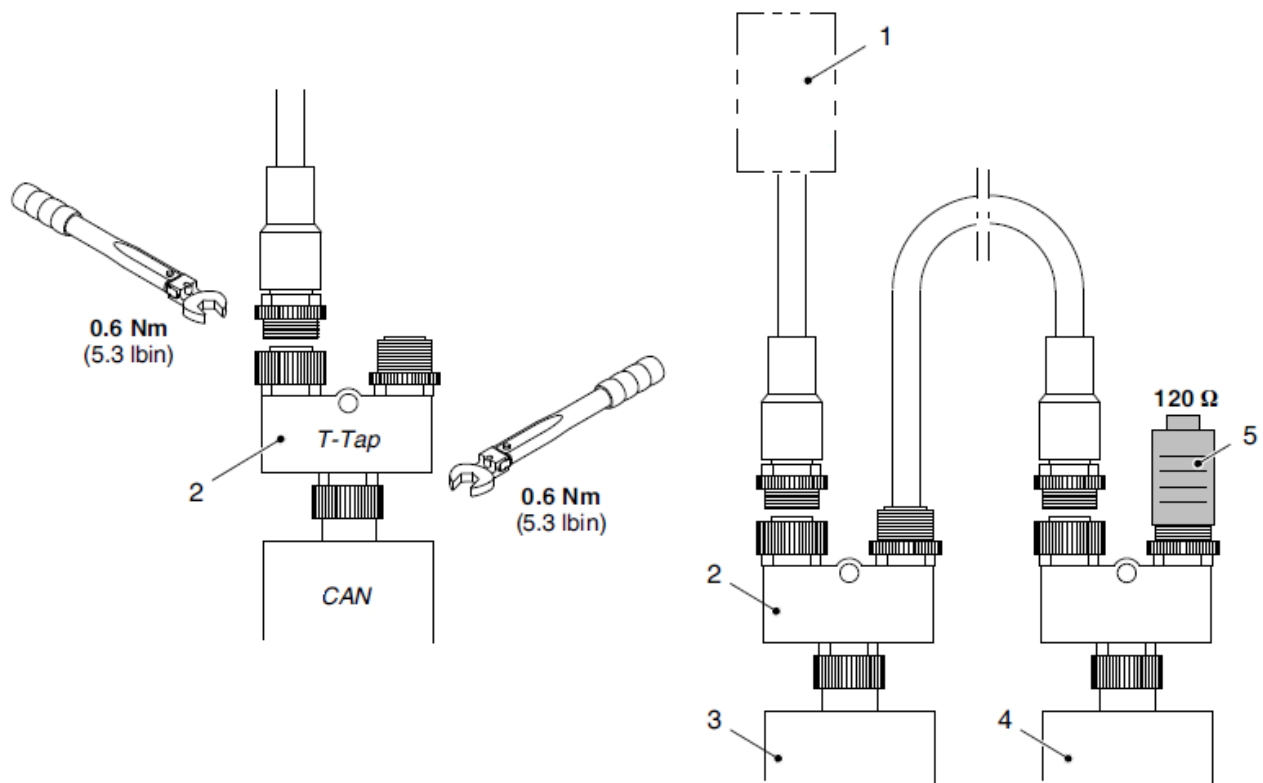

Figure 7-3 Example with two pressure sensors and information on T-tap and CAN bus cables with hexagon nut
Refer to Figure 7-3: Tighten the hexagonal head with torque of 0.6 Nm. Nordson recommends the torque wrench made by Murr Elektronik, Murr article number 7000-99102-0000000.
4. Refer to Figure 7-3 for information on torque for T-tap and CAN bus cables with hexagon nut.
If there are one or more pressure sensors installed in the system, the second terminating resistor (120 Ω) must be attached to the last pressure sensor. Refer to Figure 7-3.